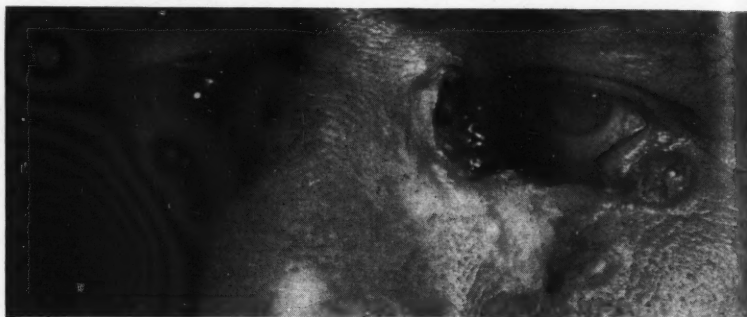

Fig. 1—Appearance of carcinomatous tissue.
Fig. 1—The cavity preparation is made as for a gold inlay. As much bulk as possible is established. A compound impression is taken in a copper band as in an indirect technique (Fig. 1).
*History*—The patient, aged 55, had a carcinoma of the outer surfaces of the left orbital region involving both upper and lower eyelids as well as a portion of the upper face and side of the nose, contiguous thereto (Fig. 1).